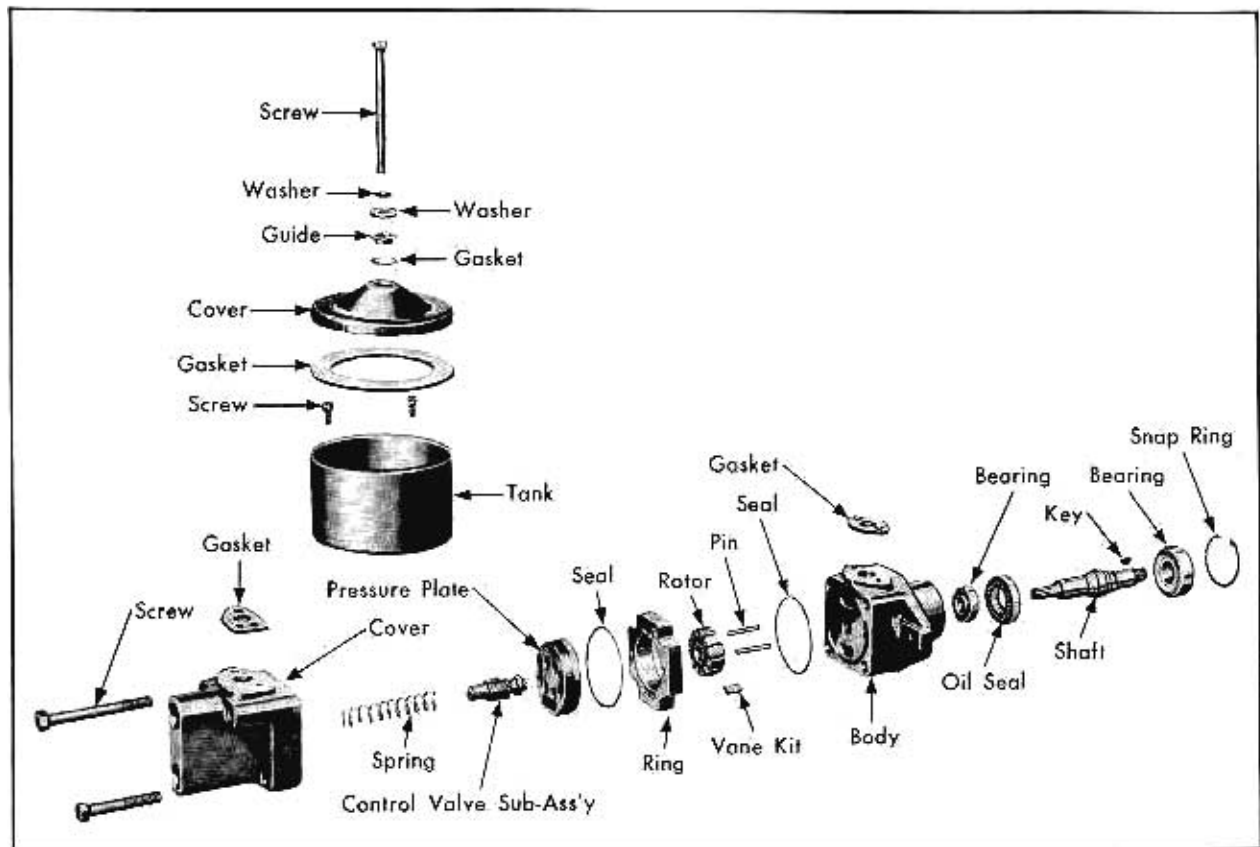

Fig. 7-18 Steering Pump - Disassembled
1. Remove tank cover screw, washers, and tank cover with gaskets. Fig. 7-18.